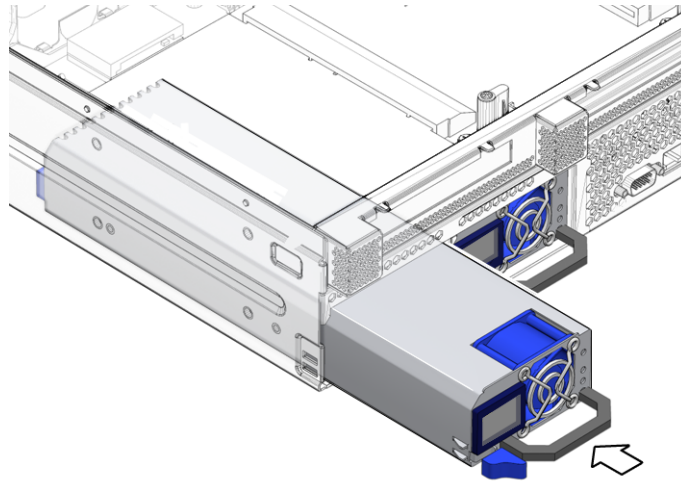

FIGURE 5-7 Installing a Power Supply
3. Slide the power supply into bay until it is fully seated (FIGURE 5-7).